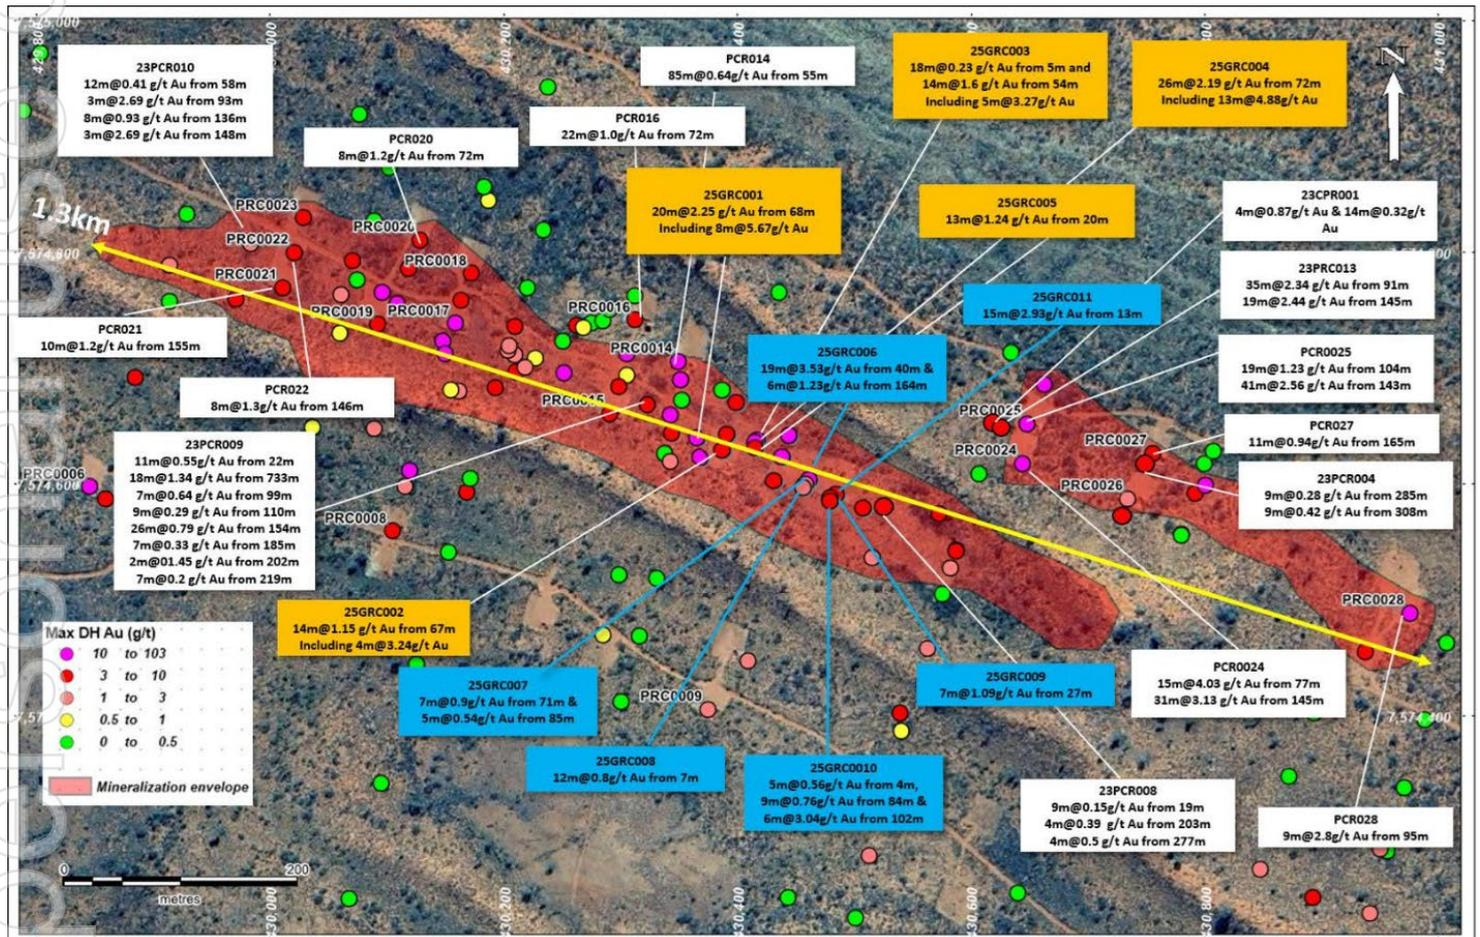

Figure 1: 11 assay results from Phase I drilling campaign at Grace Gold-Copper Project
Paterson Resources Limited ("Paterson" or "Company") (ASX: PSL) is pleased to advise the second batch of assay results (6 out of 18) from Phase I of the comprehensive 8,500m Reverse Circulation (RC) drilling campaign continued to demonstrate shallow zones of wide gold mineralisation along a 1.3km strike length (Figure 1 & Appendix A).
The results of the program to date provide further evidence of high grade, shallow gold mineralisation which is open at depth (Figure 1). Notably, the result from the program to date include **20m @ 2.25 g/t** from 68m 25GRC001, **26m @ 2.19m** from 72m i25GRC04 and **19m @ 3.53 g/t** from 40m 25GRC006.